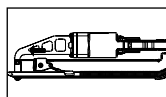

Fig.5
7. Load fasteners into your tool following the instructions in this manual. (See Fig. 5)